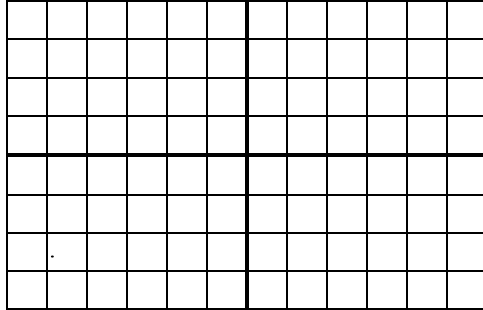

Figure 4.2a
3. On the graphs of figure 4.2a and 4.2b sketch the input voltage,  $V_{in}$  and the output voltage  $V_{out}$  respectively. Also note the vertical and horizontal sensitivity.